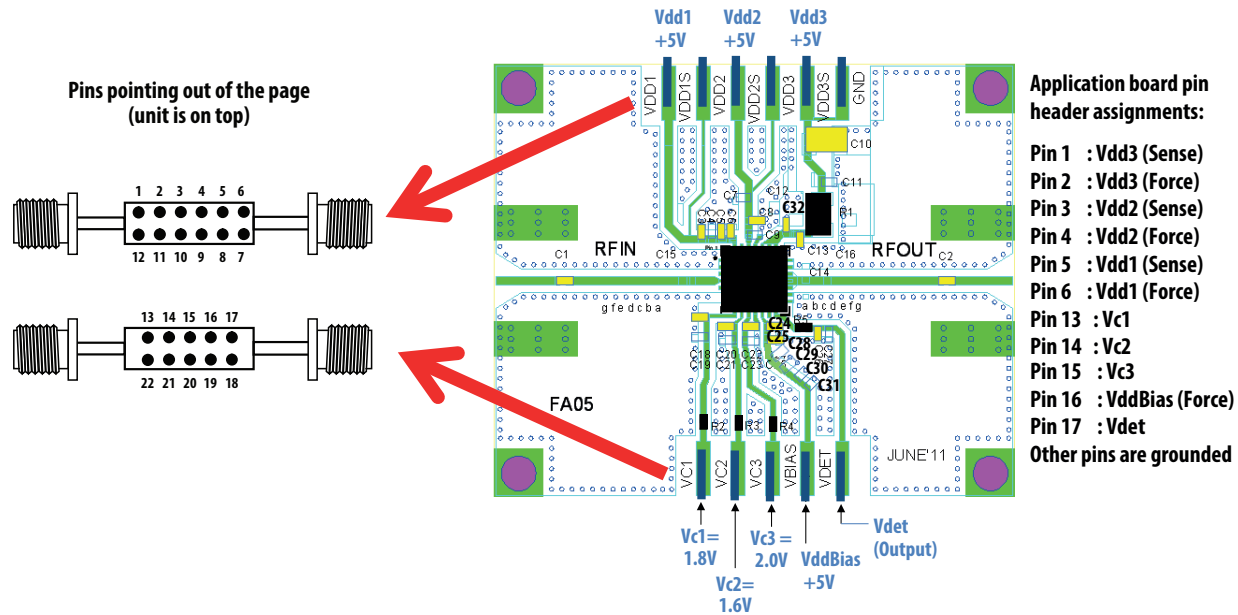

Figure 23. Demonstration board application circuit for MGA-43003 module
3. $I_{dq1} = 55.0\text{mA}$, $I_{dq2} = 105.0\text{mA}$, $I_{dq3} = 200.0\text{mA}$, $I_{V_{ddBias}} = 14.0\text{mA}$. $I_{dq1/2/3}$ are adjusted by voltages to CMOS-compatible control pins $V_{c1/2/3}$ respectively. These typical bias currents were obtained with $V_{c1/2/3}$ voltages in Figure 23 above. Adjustment of these currents enable optimum bias conditions to be achieved for best linearity and efficiency for a given modulation type.